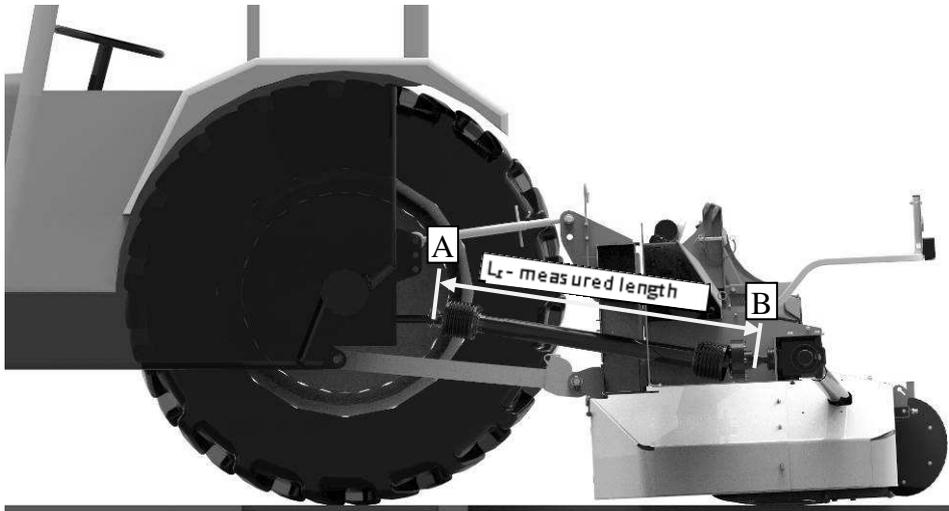
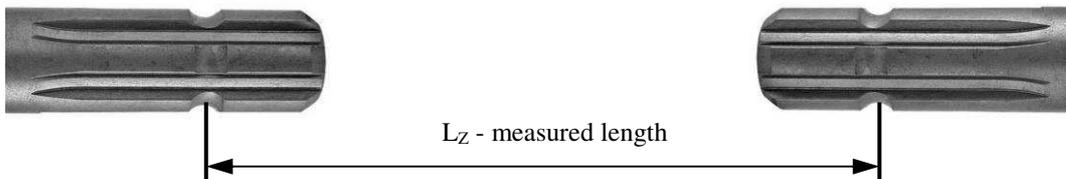

Fig. 12. Distance between tractor's PTO shaft and machine's drive shaft
Fig. 13. Properly measured length
- ❑ take measurement of distance between two shafts as provided in **Fig. 12 - Fig. 13**,